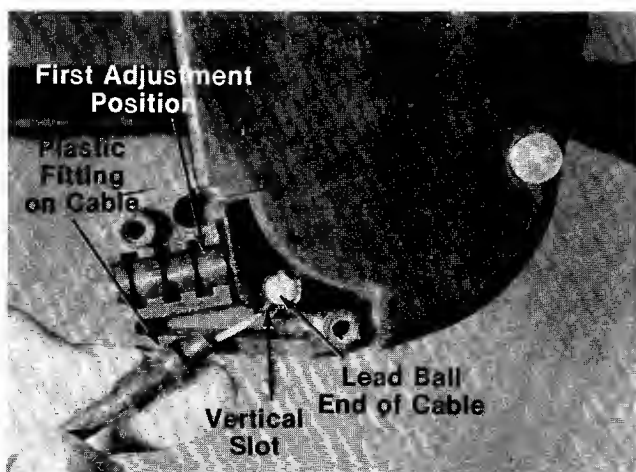

FIGURE 9.
13. The drive clutch control cable is attached to the deck. Attach the other end of the drive clutch control cable to the clutch control housing on the upper handle as follows. Place the lead ball end of the cable into the fitting provided in the end of the clutch control lever. Slip the braided wire into the vertical slot as shown in figure 9.
15. Place the plastic fitting on the control cable into the first adjustment position on the clutch control housing. See figure 9.
When starting the unit for the first time, face the mower against a solid object such as a wall, fence, etc. Start the unit, and if it shows any signs of motion with the drive clutch control disengaged, shut the engine off immediately. Check the position of the drive clutch control cable. The plastic fitting must be assembled in the first adjustment position inside the housing, all the way to the right, as shown in figure 9.